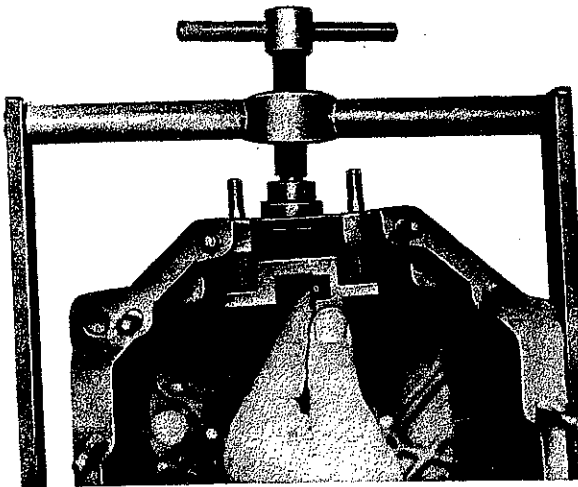

Fig. 22
New studs for through-holes are installed coated with sealing compound. Attach guide pieces (620 or 626) or (621 or 625) to housing rear end (120) or housing front end (101) (Fig. 22).